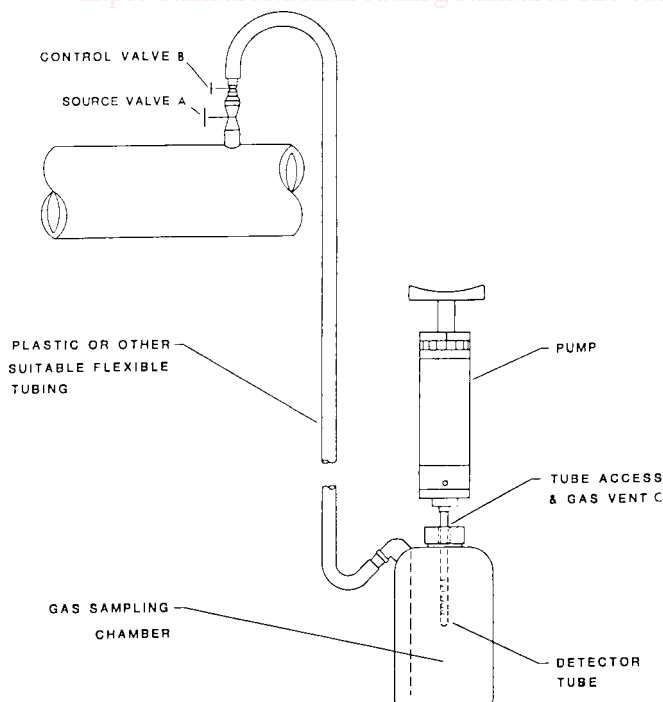

FIG. 1 Half Litre Polyethylene Bottle
6.3 A suitable container can be devised from a half-litre polyethylene bottle (see Fig. 1). A 6 mm outside diameter polyethylene tubing sealed into the bottle and discharging near the bottom of the bottle provides for flow into the sampling container. A 12 mm hole cut into the cap of the bottle provides both access for the detector tube and a vent for the excess gas flow.
7.1.1 Open the source valve (Valve A in Fig. 1) and blow down vigorously to clear foreign material from the source valve and connecting nipple. Close the source valve.
7.1.2 Install the control valve (Valve B in Fig. 1) or pressure regulator on the outlet of the source valve. Connect outlet of the control valve to the gas sampling container using the shortest length practicable of suitable tubing.
7.1.3 Open the source valve and then the control valve to obtain a slight positive flow through the gas sample container, venting to atmosphere through the tube access and vent (Vent C in Fig. 1). Purged gas must be vented at a sufficient rate so that pressure does not build up in the sampling container and increase the flow rate through the detector tube.